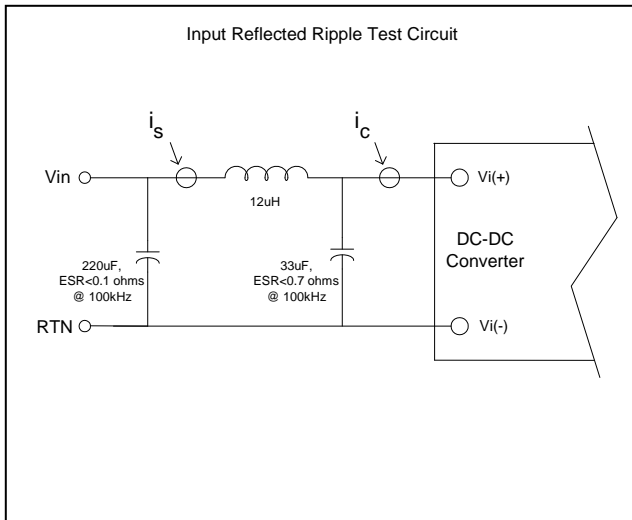

Figure 7 Test circuit used for input ripple current measurement
- (1) $V_{in} = 48V_{dc}$, $T_a = 25\text{ }^{\circ}C$, Airflow = 200 LFM unless otherwise noted.
- (2) Input Reflected Ripple Current is specified when measured with the filter shown in Figure 7.
- (3) Output Ripple Voltage and noise is specified when measured with a 10uF tantalum and a 1uF ceramic capacitor at the converter output pins.
- (4) Transient response is specified without a capacitor at the output of the converter.
- (5) If remote sense is not required or used, the Sense(+) and Sense(-) pins must be connected to $V_o(+)$ and $V_o(-)$ respectively.
- (6) See 'Remote Sense' and 'Trim Feature' details regarding output voltage range limitations.
- (7) Thermal shutdown is monitored at the 'Thermal Measurement Location' (TML). See 'Mechanical Information' on page 4 for the thermal measurement location.
- (8) See 'Safety Considerations'.
- (9) De-rating curves are conducted in a controlled environment. End application testing is required to ensure the Thermal Measurement Location temperature is below the maximum specified.